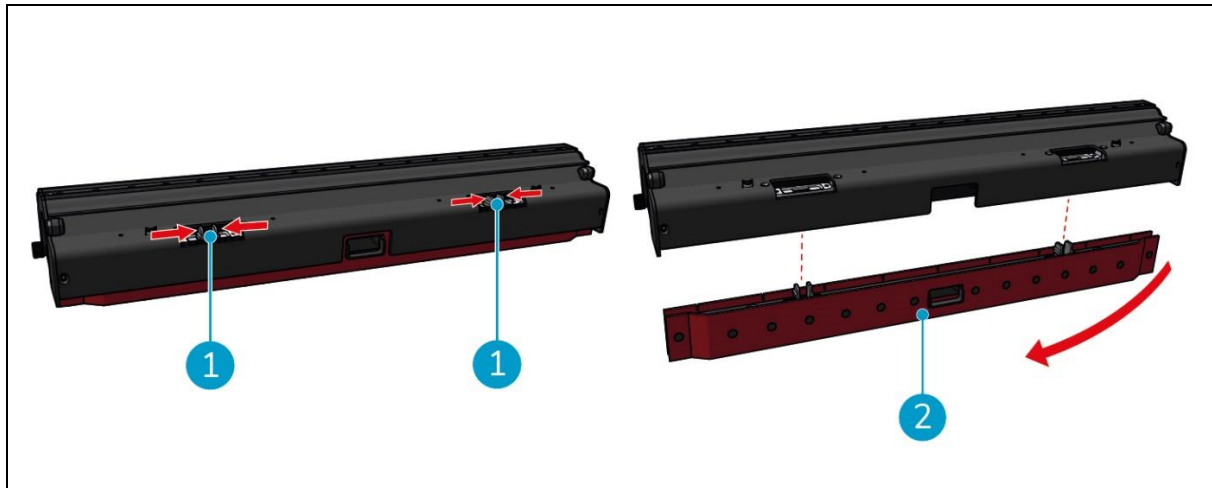

Figure 35
2. Press the plastic pins inwards, as shown in Figure 35, pos. 1. The squeegee blades holder comes off.